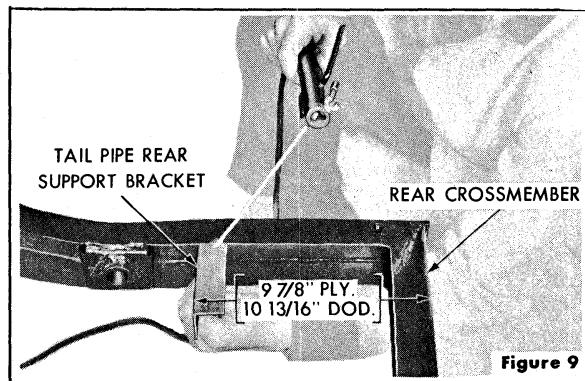

Figure 9
**OPERATION NO. 8:** Locate frame rear tail pipe bracket on frame side rail  $9\frac{7}{8}$  inches for Plymouth or  $10\frac{13}{16}$  inches for Dodge from extreme rear end of rear cross-member to forward edge of bracket (Fig. 9), and electric weld to frame.